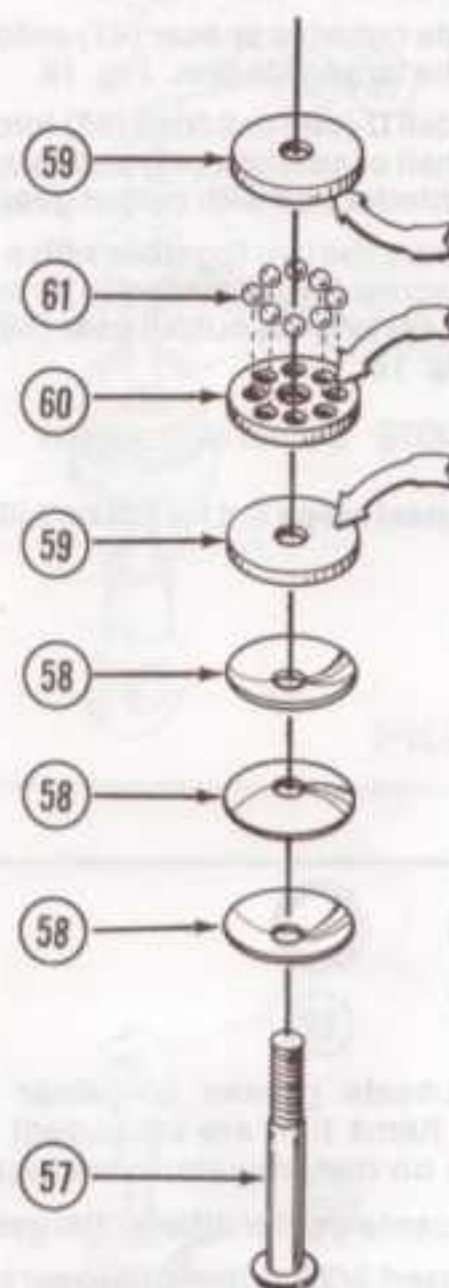

FIG. 21
19. Using 5-40 x 7/8" button head shoulder screw (57) assemble thrust assembly in the following order. Fig. 21.
20. Slide three opposing belleville cone washers (58) down the 5-40 x 7/8" button head shoulder screw (57) with the tip of the cone of the first washer (58) against the head of the screw (57). Fig. 21.
* *NOTE: The belleville washers are black. The washers (58) should be opposing (ie; the tops of the cones should meet and the bottoms of the cones should meet).*
21. Slide one well greased thrust washer (59) down screw (57) shaft as shown. Fig. 21.
* *NOTE: The thrust washer should only touch the big edge of the last belleville (58). Grease thrust bearing side of washer only as indicated by arrows.*
22. Slide well greased bronze bearing cage (60) down screw (57) shaft. Fig. 21.
23. Insert eight 1/16" thrust balls (61) into the cage (60). Fig. 21.
24. Slide the second well greased thrust washer (59) down screw (57) shaft. Fig. 21.